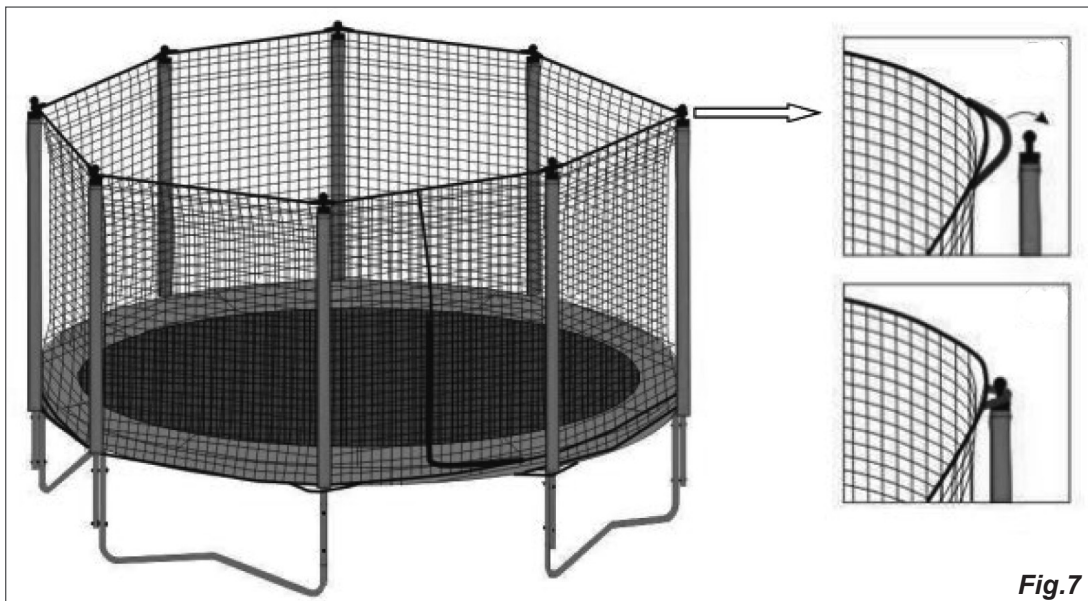

Fig.7
Step 5: Spread the net out on the bounce mat where you want the entrance to be and begin to hang the top of the net over the pole caps with the integral hanging points (Fig.7).